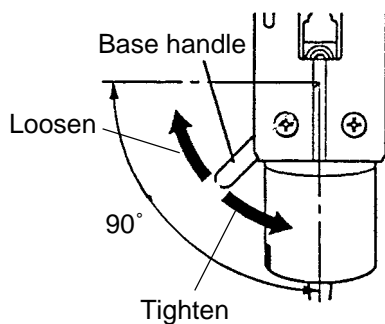

Fig. 1
- ① Turn the base handle just under the housing about 90° to loosen (Fig. 1).
- ③ Turn the base handle about 90° in the direction opposite to ① to lock the base and secure the base handle to the original position just under the housing (Fig. 1).